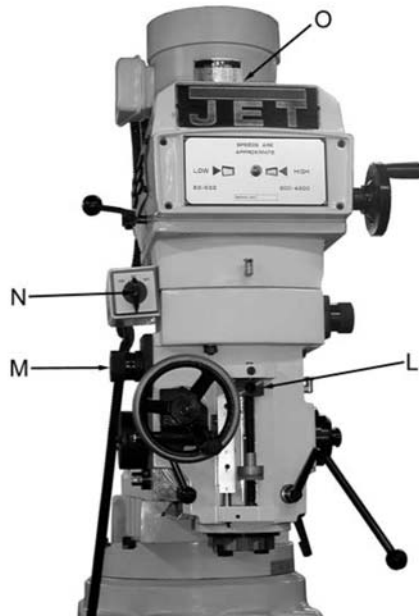

Figure 6
- L. **Quill Stop** (L, Fig. 6) - located on the front of head. Used to disengage the automatic feed in either direction as well as the setting point for working to a given depth.
- M. **Quill Feed Speed Selector** (M, Fig. 6) - located on the left side of the head. Turn the knob and indicate pointer towards one of three feed speeds (0.0015", 0.003", and 0.006") per spindle revolution. Feed is more readily engaged when spindle is turning.
- N. **Reversing Switch** (N, Fig. 6) - located on the left side of the head. Switches rotation of spindle.
- O. **Drawbar** (O, Fig. 6) - located on the top of the head. Used to secure the tool holder in the taper. Use the spindle brake while tightening the drawbar